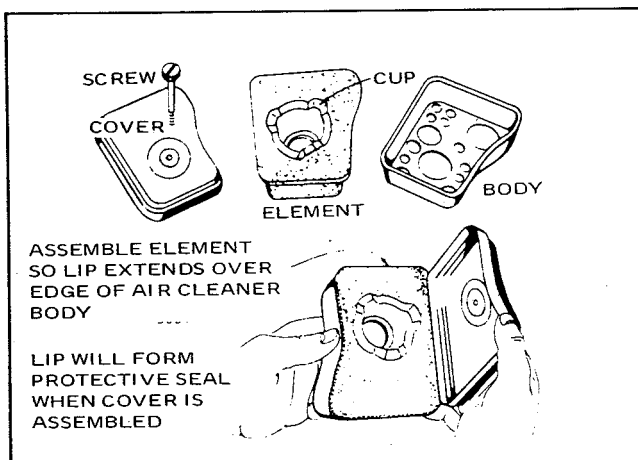

Figure 14.
2. See Figure 14. Clean air cleaner and re-oil element. The air cleaner normally need not be cleaned for a full season unless tilling is done under extremely dusty conditions. Clean every few hours under extremely dusty conditions. Clean air cleaner as follows: